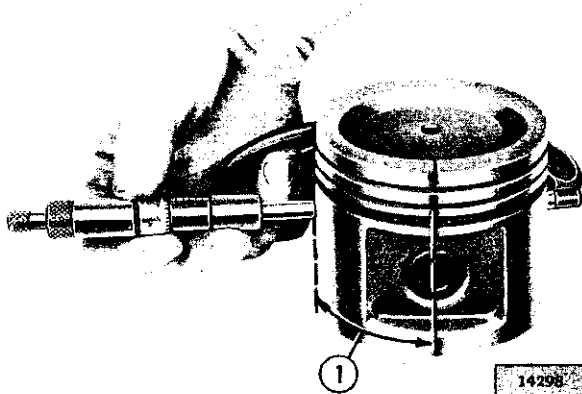

FIG. D1-15—MEASURING PISTON
b. Measure diameter of the piston to be fitted, as shown in Fig. D1-15. The piston must be measured at right angles to the piston pin, ¼" [6,3 mm.] below the oil ring groove. The piston must be be-